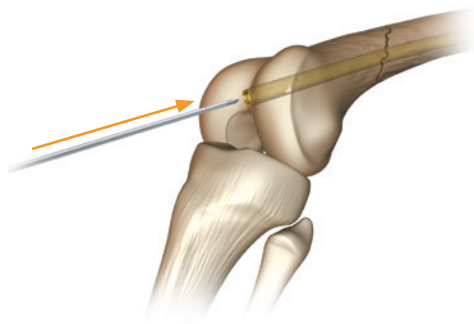

Figure 33
2. Under fluoroscopy, insert a 3.2mm Brad Point Guide Pin into the end of the nail either using power or by hand (Figure 33).